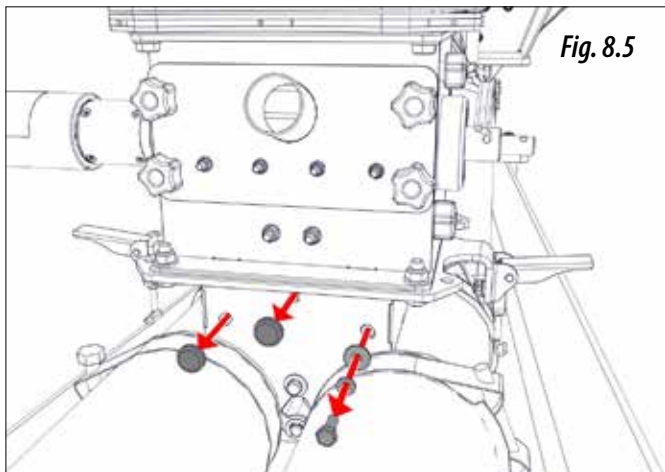

Fig. 8.5
- 2- Remove the screw and its washers together with the 2 plastic plugs (Fig. 8.5), in this way the trap is unlocked.